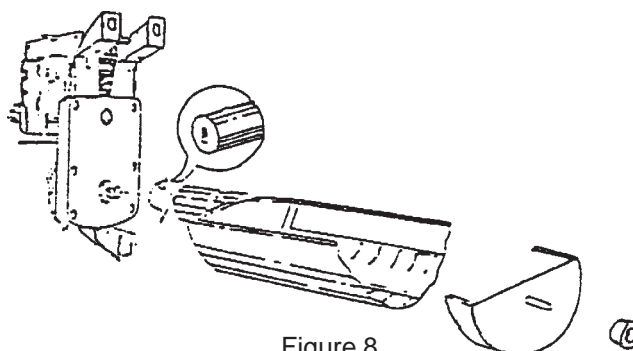

Figure 8
1. Make sure the hole through the rear shaft is in a horizontal plane. (If a pin were inserted in the hole, the pin would be horizontal.) See Fig. 8.
2. The Vend Rotor must be in the loading position when the Motor shaft is inserted in the end of the Rotor. See Fig. 8.